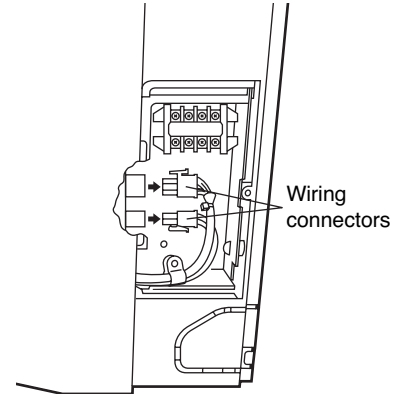

Fig. 3-44
- (3) Disconnect the 2 wiring connectors. (Fig. 3-44)